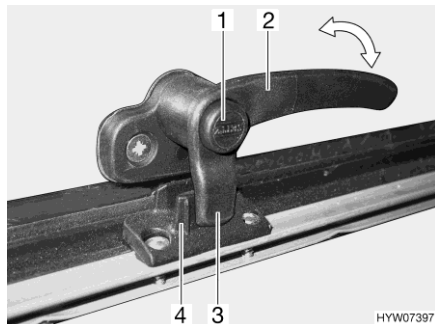
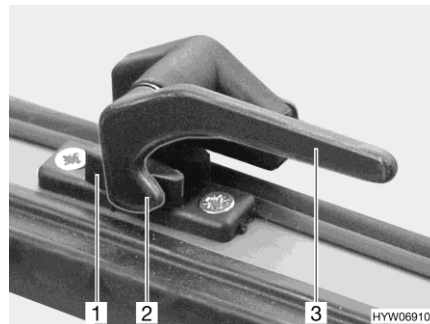

Fig. 86 Catch lever with safety knob in "closed" position
Fig. 87 Catch lever in "closed" position
- Press and hold the security button (Fig. 86,1), if present.
- Turn the catch lever (Fig. 86,2 or Fig. 87,3) a quarter turn towards the centre of the window.
- Turn the catch lever (Fig. 86,2 or Fig. 87,3) a quarter turn towards the window frame.
The locking catch (Fig. 86,3 or Fig. 87,2) on the catch lever is entirely on the inner side of the window catch (Fig. 86,4 or Fig. 87,1).
- "Firmly closed" (Fig. 86 and Fig. 87)